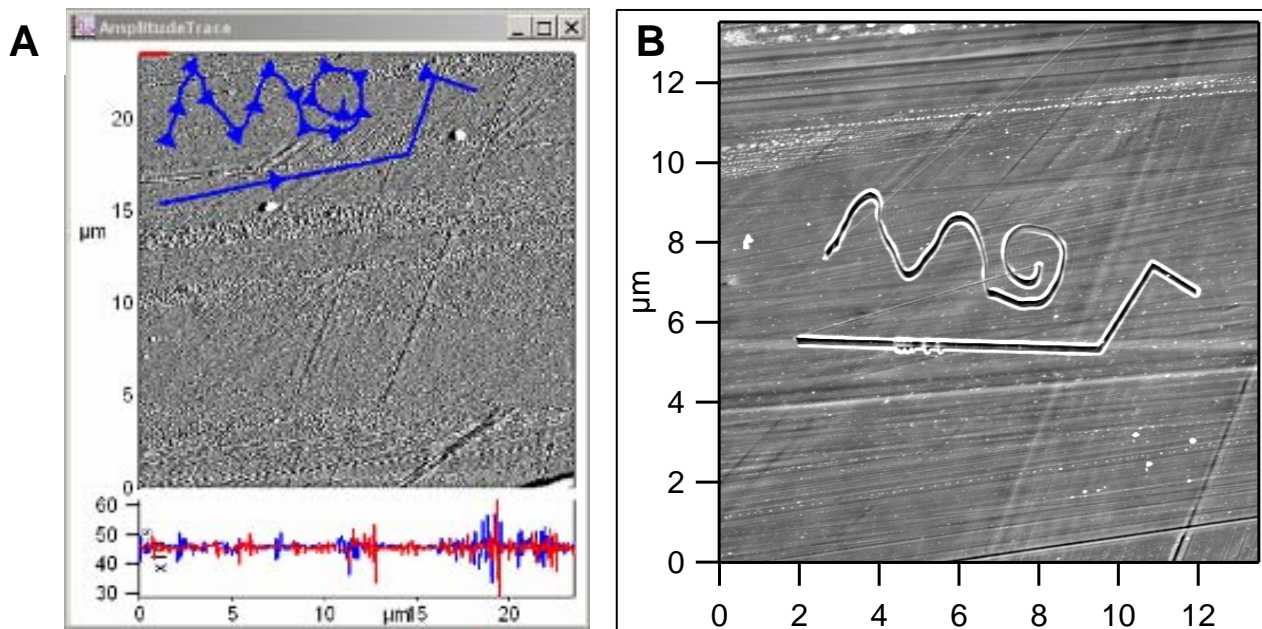

Figure 10.2: A) line and free hand paths drawn & grouped, also showing 'direction arrows'; B) AC mode image of resulting pattern on polycarbonate.
- Figure 10.2 shows a simple set of lines drawn with MicroAngelo™: one was by free hand, one by line. The two paths were grouped by clicking the 'Make Group', then 'Save Group' buttons- a dialogue came up asking what the group is to be named. The Free Air deflection (from S&D meter) was -0.57V, so I defined the 'Normal Set Point' as -0.5V, while choosing the Litho Set Point as 0.5 V. The velocity was 600 nm/s.